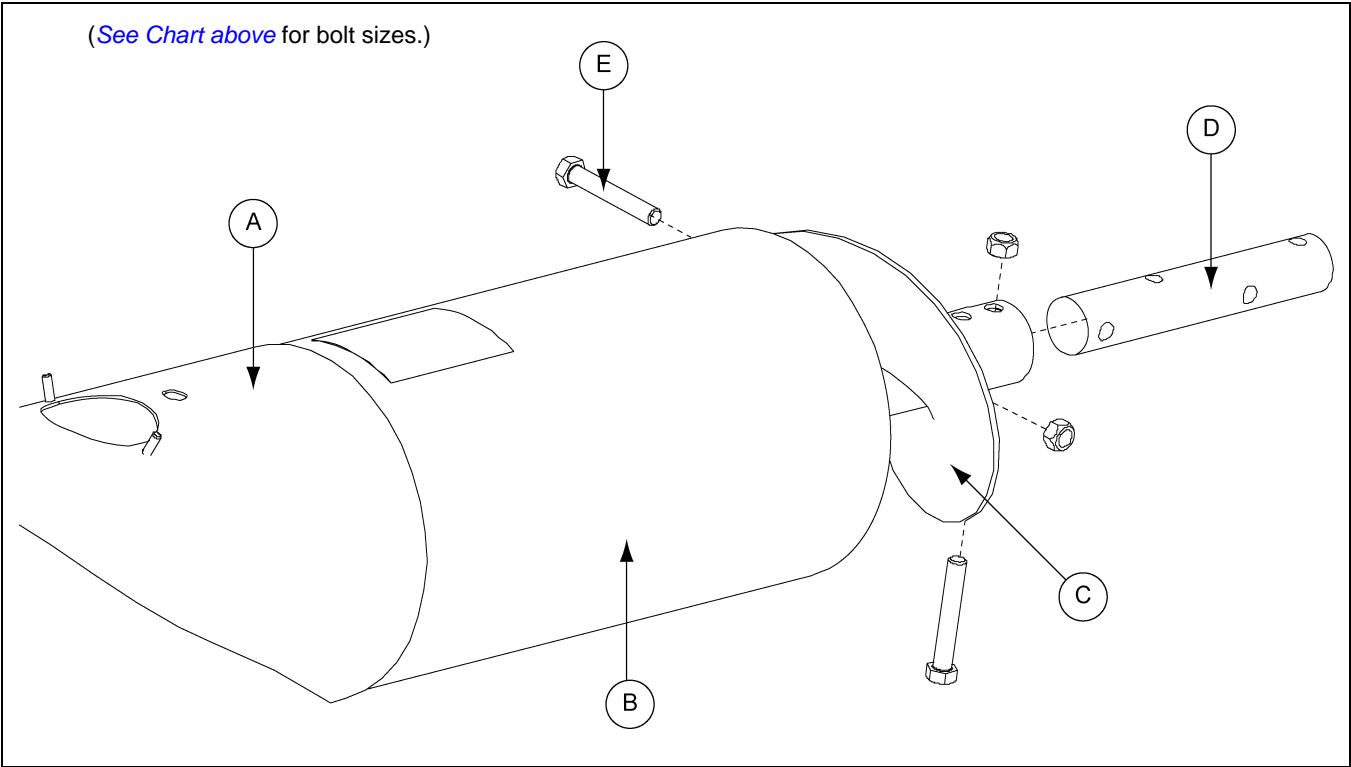

Figure 4Q
1. Slide connecting band (A) onto main auger tube (B) and attach connecting stub (D) to main auger flight (C) using the assigned hardware. (See Chart below and Figure 4Q.)